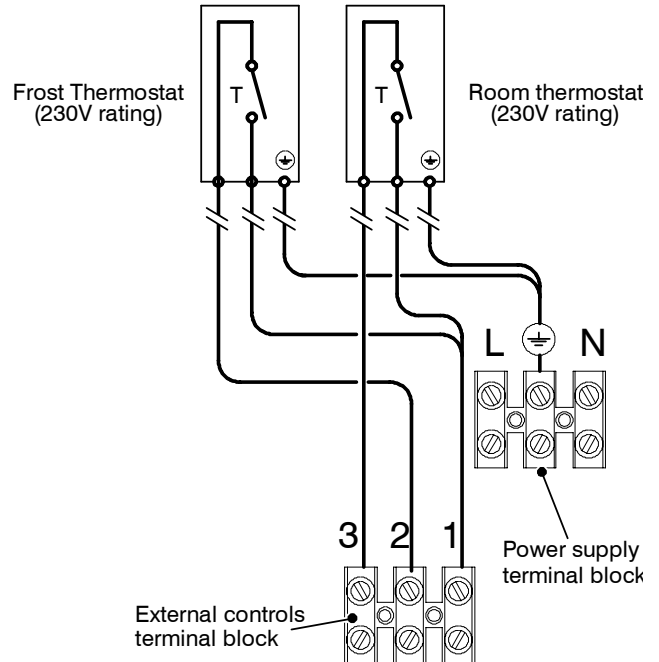
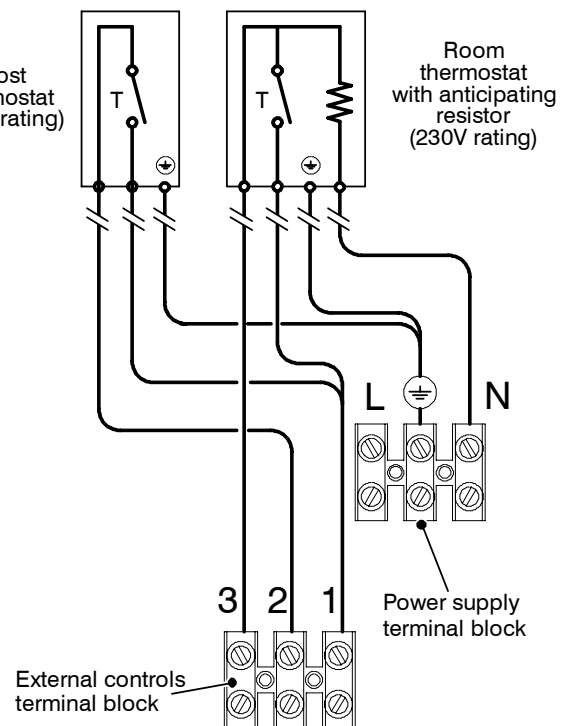

Fig. 6.15
Fig. 6.16
- 10 Connect the frost thermostat between terminals 1 and 2 as shown in Fig. 6.15 or Fig. 6.16. **Do not connect live wires to terminals to which the frost thermostat must be connected.**